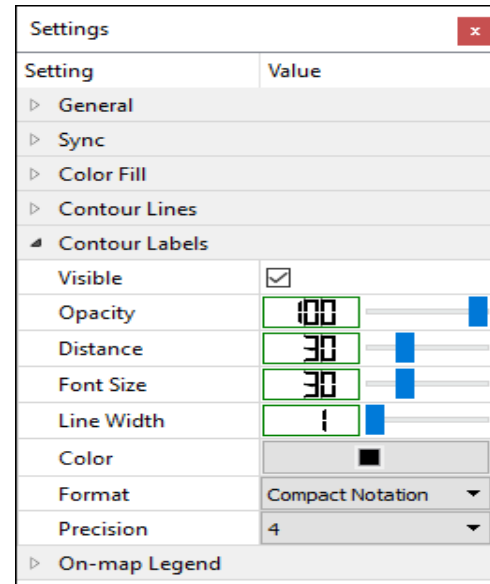

Figure 124. The Contour Labels group of the Settings window for Contour Maps
5. Contour Labels (Figure 124)